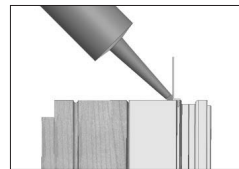

FIG. 7c
- c. Apply on top and sides apply a 1/4" continuous bead of silicone on the back side of the nailfin where it meets the frame. (Fig 7c)